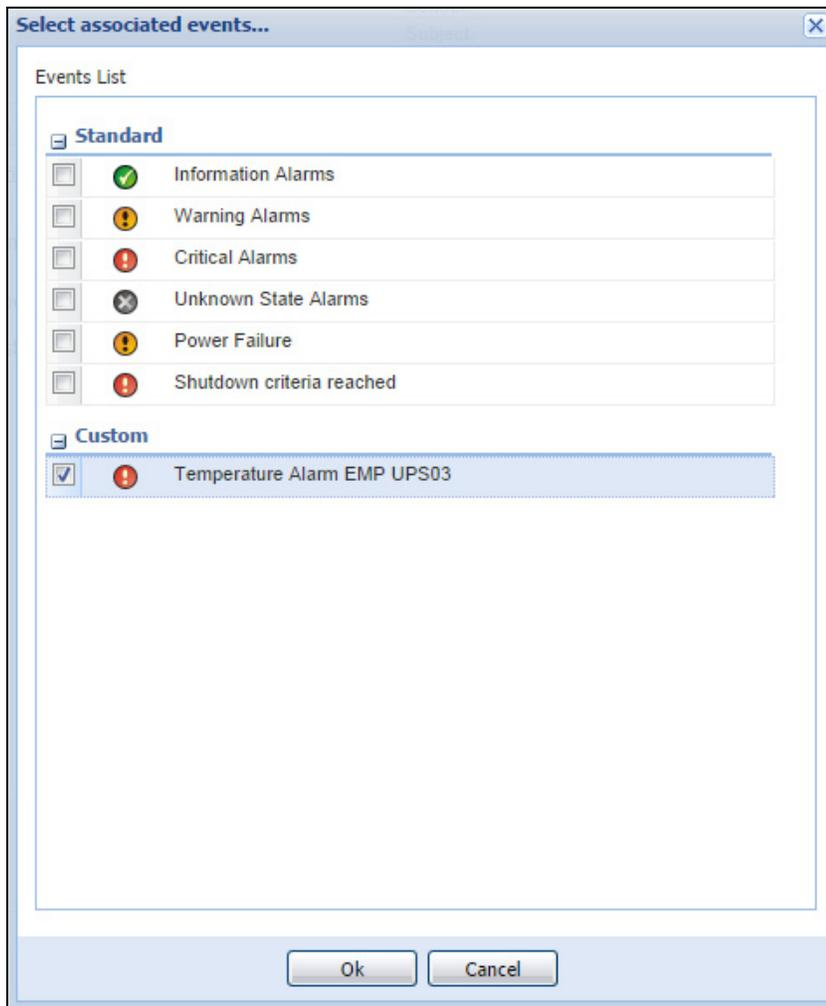

Figure 191. Select Associated Events
10. Select the event you configured previously (see Figure 191).